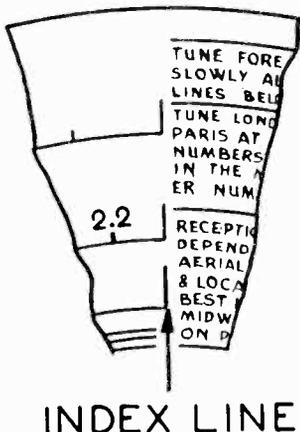

Fig. 4. Dial Calibration
1. Loosen the set screws on the shaft coupling of the tuning condenser. Then turn the tuning condenser until the plates are in the maximum capacity position. Now turn the dial until the glowing beam indicator is on the INDEX LINE at the low frequency end of Range 2. See Fig. 4. With dial and tuning condenser in this position, tighten set screws.